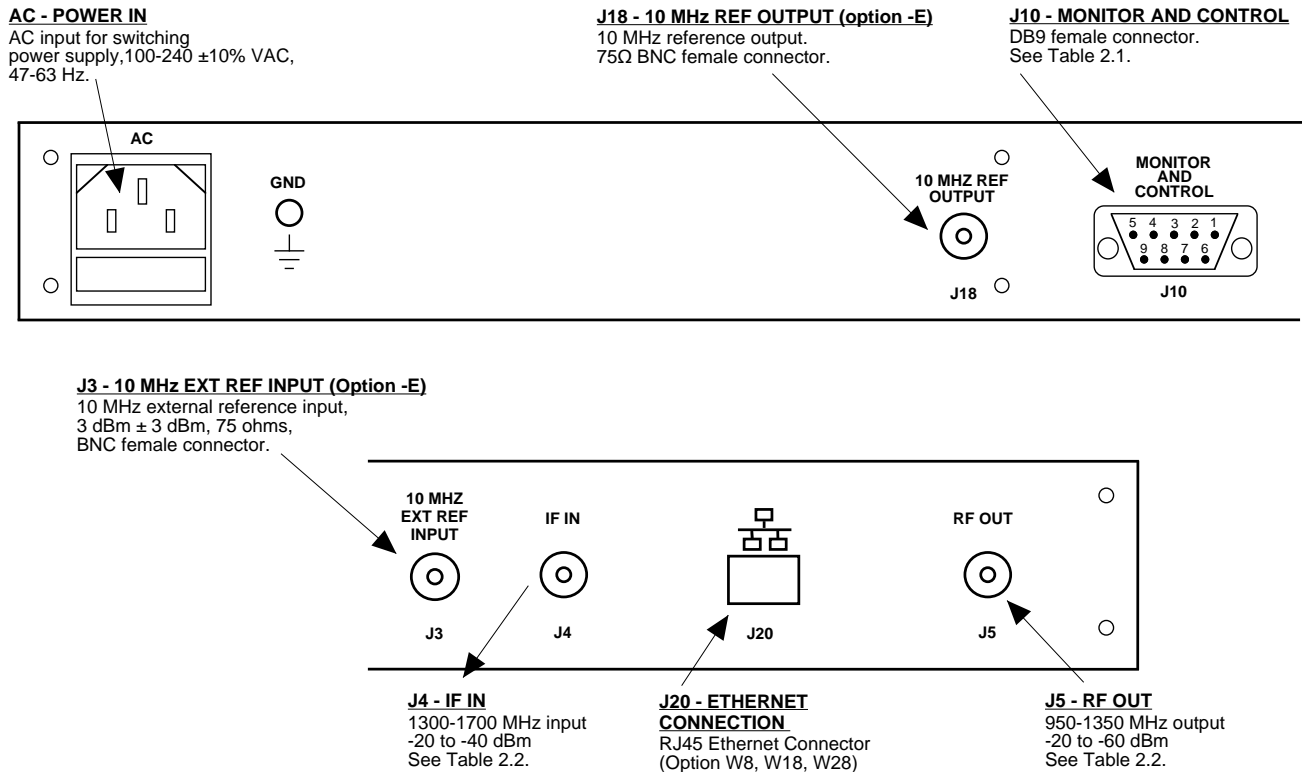

FIGURE 2.2 2083-1310 Rear Panel I/Os
2.2 Rear Panel Input/Output Signals - Figure 2.2 shows the input and output connectors on the rear panel.
1. Connect a -5 dBm to -25 dBm signal to IF IN, J4 (Figure 2.2)